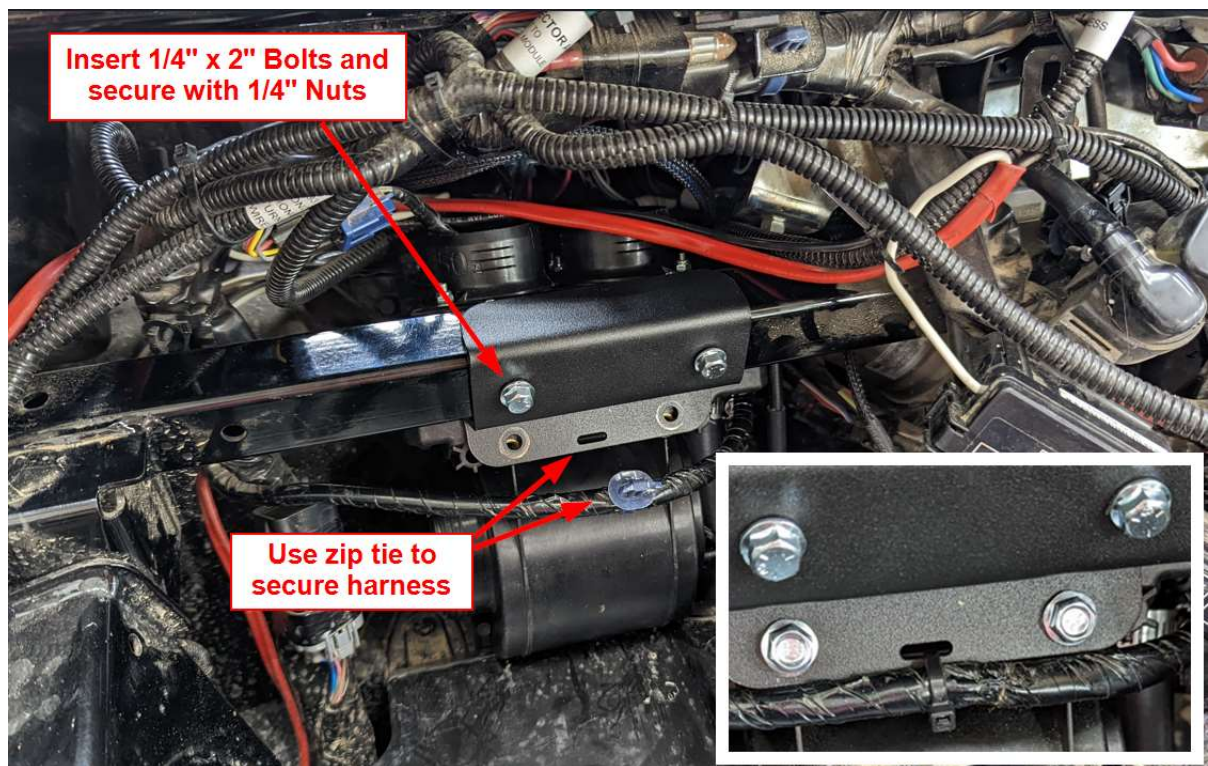

Figure 23
- d. Using the 1/4" x 2" Serrated Flange Bolts, pass the bolts through the Main Heater Bracket and through the square frame rail. Secure using the 1/4" Serrated Flange Nuts as shown in Figure 23
- f. Use a zip tie to secure the harness to the Main Heater Bracket shown in Figure 23